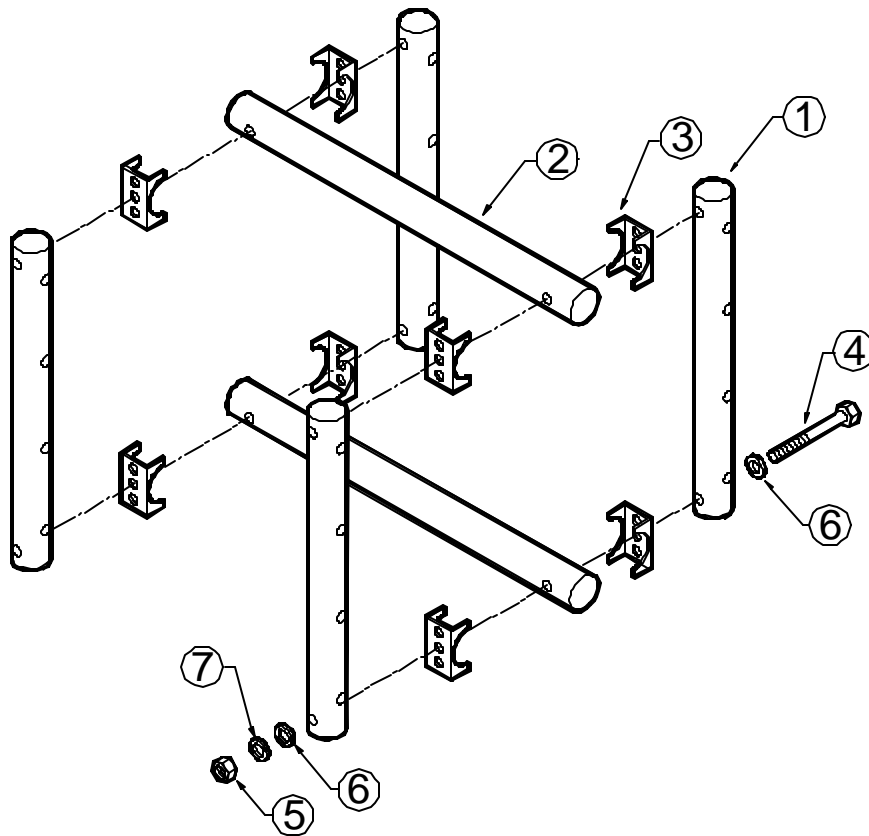

Figure 1
- a. A frame consists of four vertical members and two horizontal members. Assemble horizontal and vertical members per Figure 1. Be sure to only finger tighten the bolts holding the frame together until the antenna booms have been tightened to avoid hole alignment problems.